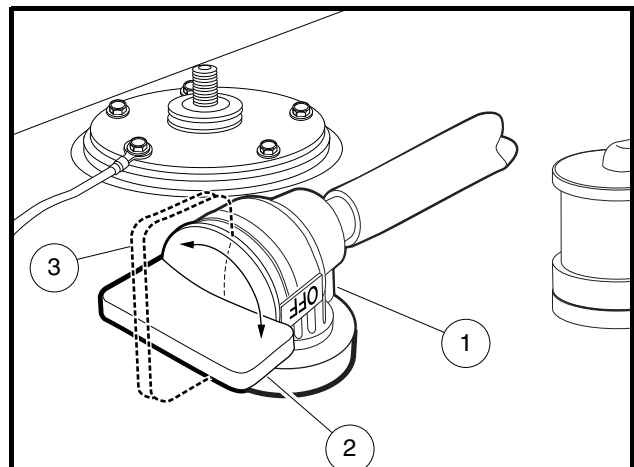

**Figure 3-3 Fuel Shut-off Valve – Closed Position
- Turn fuel shut-off valve to closed (OFF) position (Figure 3-3, Page 3-3).
- 4.1. Place the Forward/Reverse handle in the NEUTRAL position and the neutral lockout cam or switch in the MAINTENANCE position. Turn the fuel shut-off valve to the closed (OFF) position (**Figure 3-3, Page 3-3**) (**Figure 3-4, Page 3-3**) (**Figure 3-5, Page 3-3**) and run the engine until fuel remaining in the carburetor and fuel lines is depleted and the engine stalls. Return the neutral lockout cam or switch to the OPERATE position.